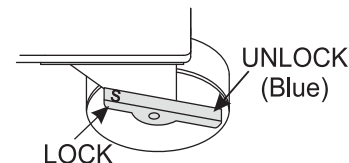

Figure 21. Unlocking Caster Wheels
8. Step on the blue end of the caster lever (Figure 21) on the three caster wheels to unlock them. The GloBug Solo can now be moved.